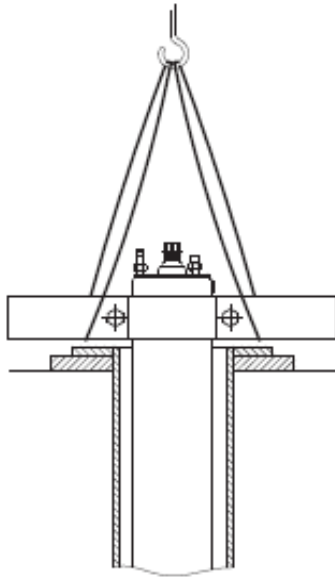

Fig. 2: Engine in vertical position
- Place the motor in a vertical position on the well seal, see Figure 2.